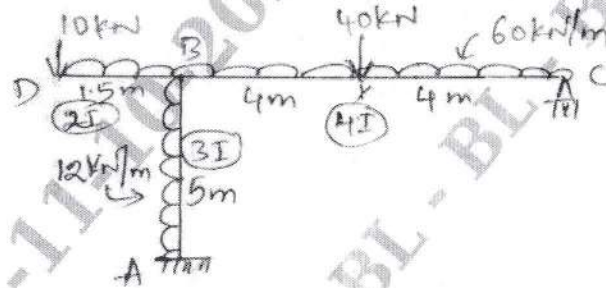

Fig. Q6
**Q.6** Analyze the frame shown in Fig. Q6, by flexibility method. Draw SFD and BMD. 20 L4 CO2